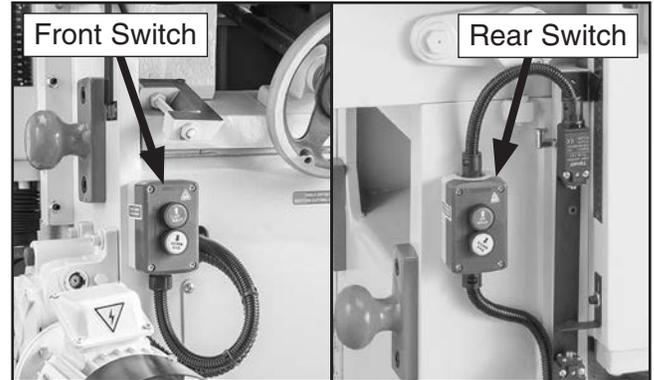

Figure 29. Location of headstock height switches.
8. Verify correct 3-phase power supply polarity by using headstock height switches (see **Figure 29**) to raise and lower headstock.